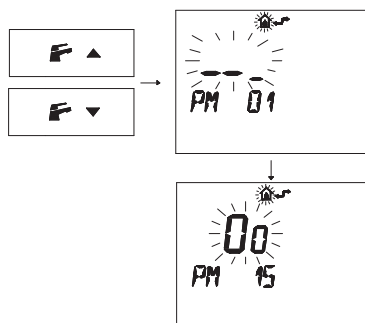

Fig. 7.12
- Press buttons  or  to display the "PM15" program that enables the external probe (Fig. 7.12)